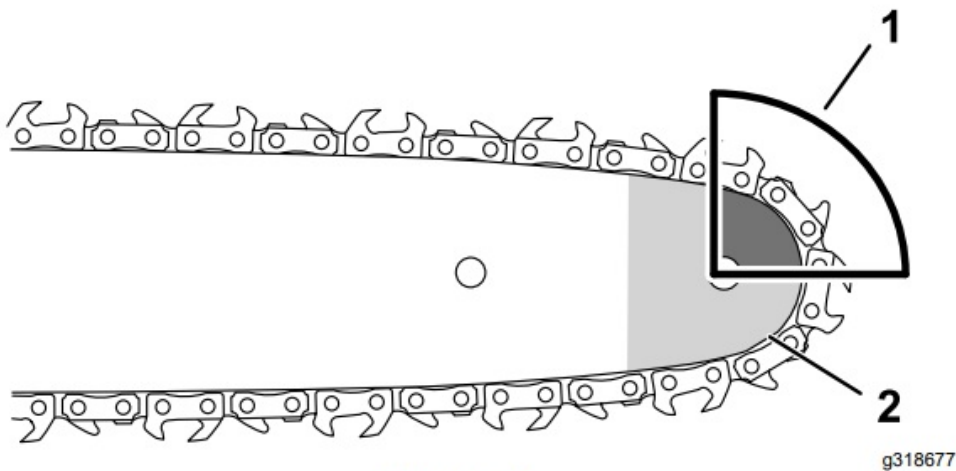

Figure 9
- A fast backward motion of the pole saw that results when the chain at the nose or top of the bar is pinched by the object being cut **Figure 9** shows the area of the bar to avoid contacting an object to prevent kickback.
4. Clean the area around the oil cap (Figure 9).
5. Remove the oil-tank cap by rotating counterclockwise, and pour bar and chain oil into the pole saw until the oil reaches the MAX line on the oil tank (Figure 9).